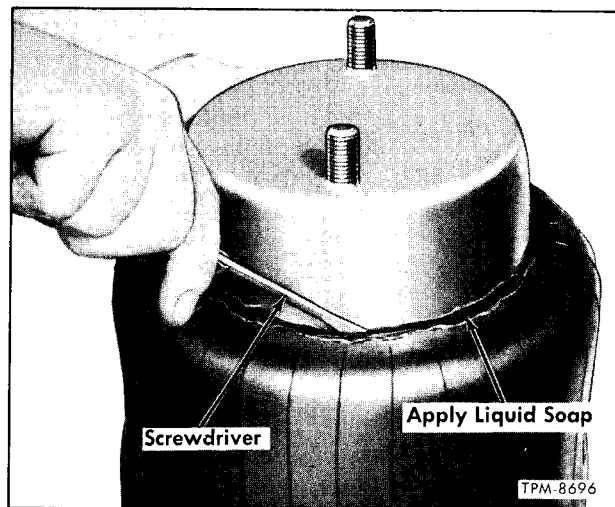

Figure 18—Loosening Bellows Bead from Lower Retainer
5. Apply liquid soap or glycerine to lower retainer surface at point of bellows contact (fig. 18). Force screwdriver between retainer and bellows bead (fig. 18) to allow fluid to reach bellows bead.